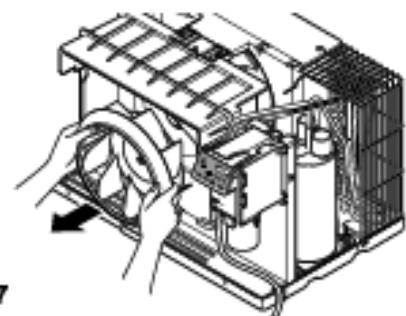

Figure 7
9. Remove the turbo fan with pliers or your hand, without touching blades. (See Fig. 7)